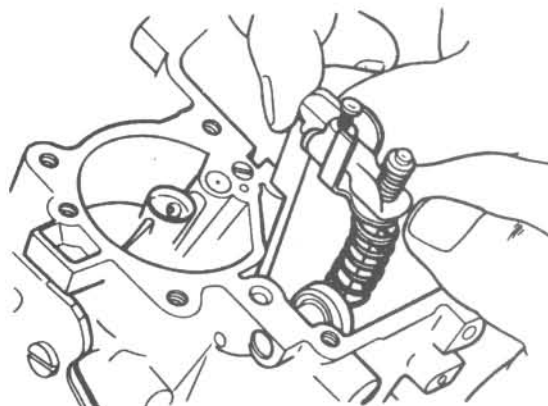

Fig. 4.75 Lift the accelerator pump assembly lifter link and metering rod out as a unit
- 14 Remove the accelerator pump housing screws and lift out the pump assembly lifter link and metering rod as shown in Fig. 4.75.